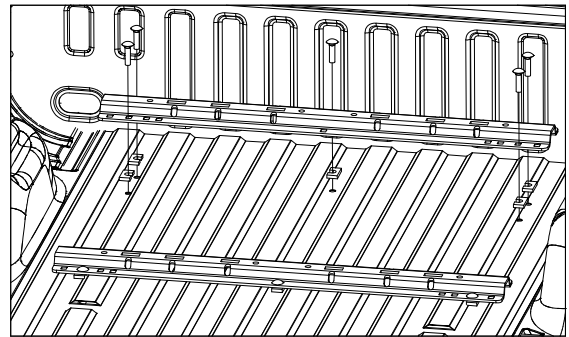

Figure E3: View looking into truck bed from rear of truck.
3. **Install forward mounting rail.** Reposition the forward mounting rail over the drilled 9/16" holes in the bed. Install a 1/2" X 2" carriage bolt through the mounting rail into each of the five drilled holes, as shown in Figure E3.